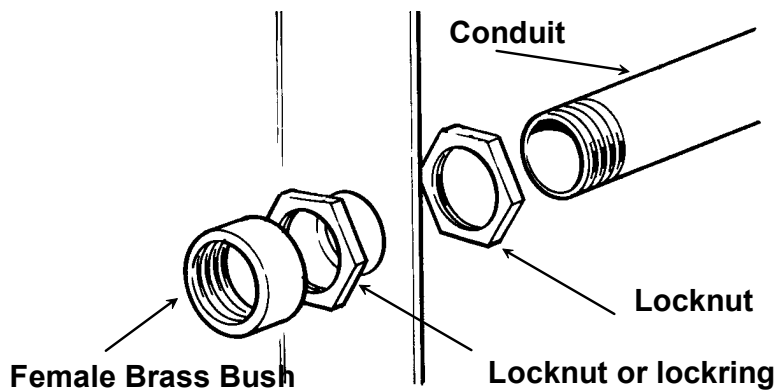

Figure 6B
- The locknut and female bush method, see Figure 6B (Used where space is tight)